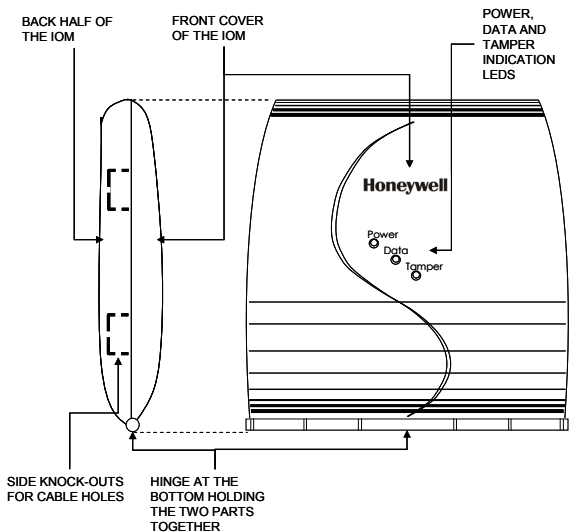
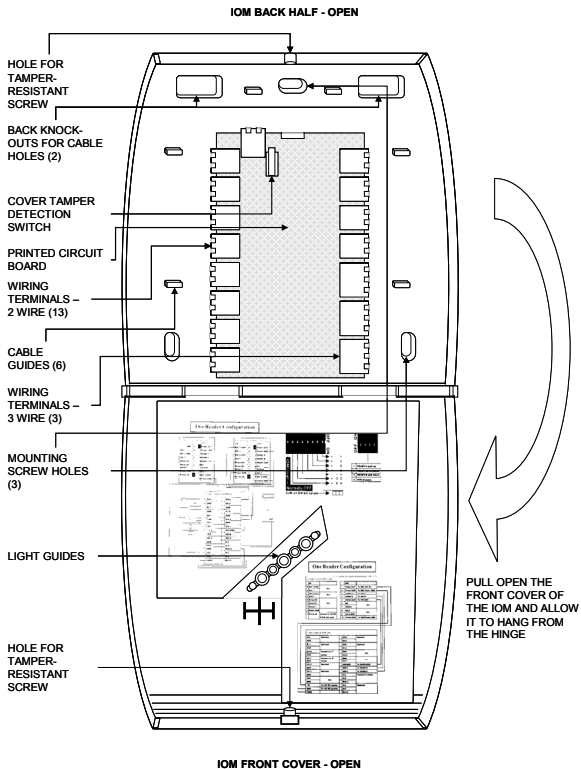

Fig.11. Outer structure of IOM – Front and side view
Fig.12. Internal structure and components of IOM
1. The IOM is a clamshell plastic case. The back half of the case has the electronic circuit board fastened to it while the front case cover swings open to allow access to the electronics and wiring. Pull open the front cover. This reveals the mounting holes and other components inside the IOM. See **Fig.11** and **Fig.12**.